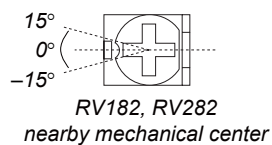

Fig. 3. Adjusted position (reference)
3. Adjust RV182 so that ③ level in Fig. 2 (between TP182 and TP478) is $-2.6\text{ dBV} \pm 0.1\text{ dB}$. (Refer to Fig. 3)
4. Remove the one side of resistor ($22\text{ k}\Omega$) of the TP184, and connect to TP284. (Refer to Fig. 3)
6. Adjust RV282 so that the ④ level in Fig. 2 (between TP238 and TP478) is $-2.6\text{ dBV} \pm 0.1\text{ dB}$. (Refer to Fig. 3)